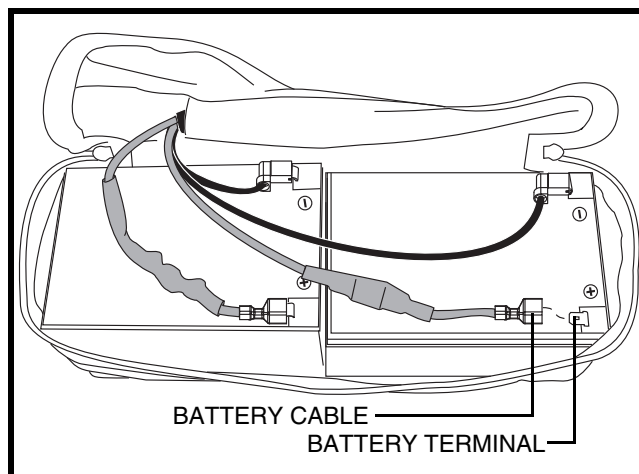

Figure 16. Battery Replacement
3. Unzip the battery pack to expose the batteries. See figure 16.
4. Disconnect the black (-) and red (+) battery cables from the battery terminals of each battery. See figure 16.